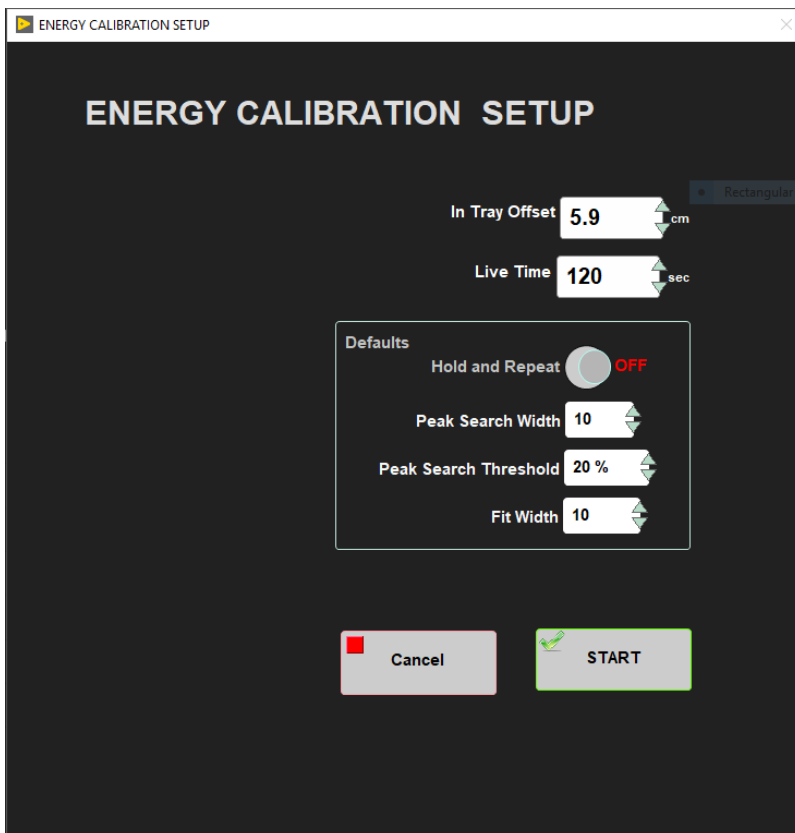

Figure 4. Energy Calibration Setup using collimated sources
2. On the main IMS (left-hand) panel, go to **Instruments > NGR: Energy Calib**, the **Energy Calibration Setup** window will be open (Figure 4), check the values and click **START** to allow the calibration to commence. The calibration process takes approximately 40 minutes to complete.
3. On the main **IMS** (left-hand) panel, go to **Instruments > NGR: Energy Calib**, the **Energy Calibration Setup** window will be open (*Figure 4*), check the values and click **START** to allow the calibration to commence. The calibration process takes approximately 40 minutes to complete.